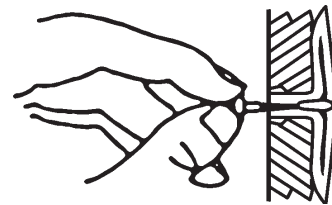

Figure 9 - Popping Open
4. For thin walls (1/2 inch or less), insert red key into wall anchor. Push red key to "pop" open anchor wings (see Figure 9).